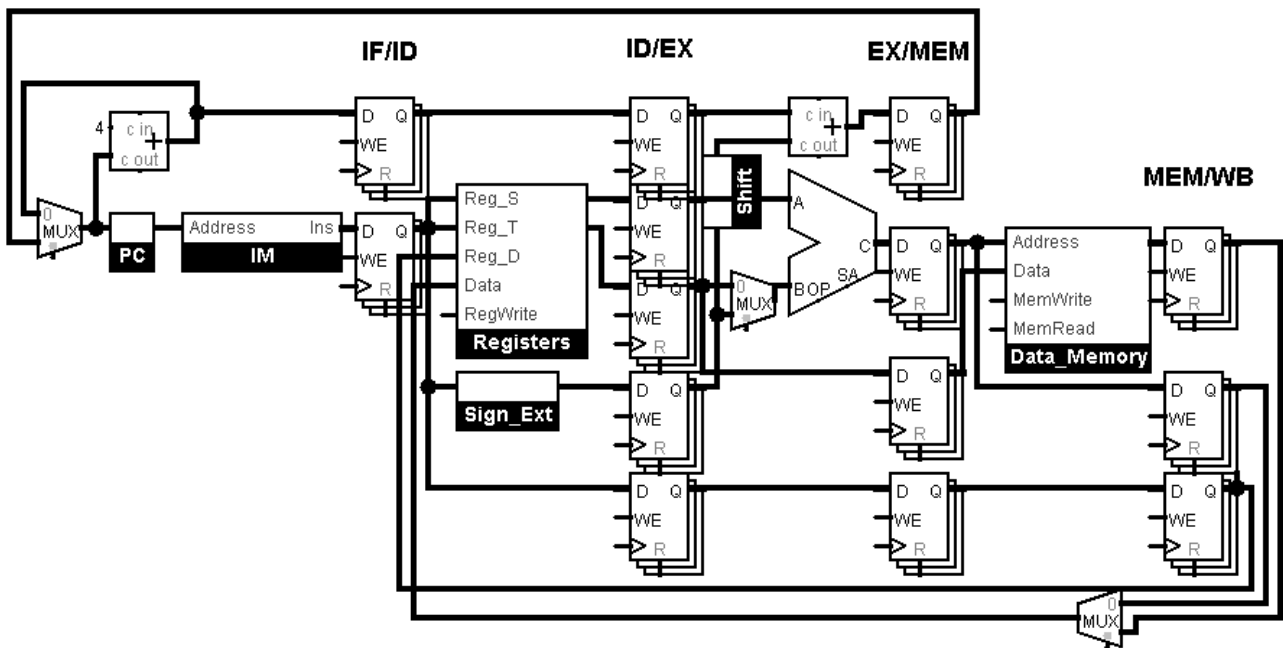

Figure 12: Register Latches in the Pipeline
- need registers ie. flip-flops to act as banks between stages as seen in Figure 12
- \* as seen in Figure 12